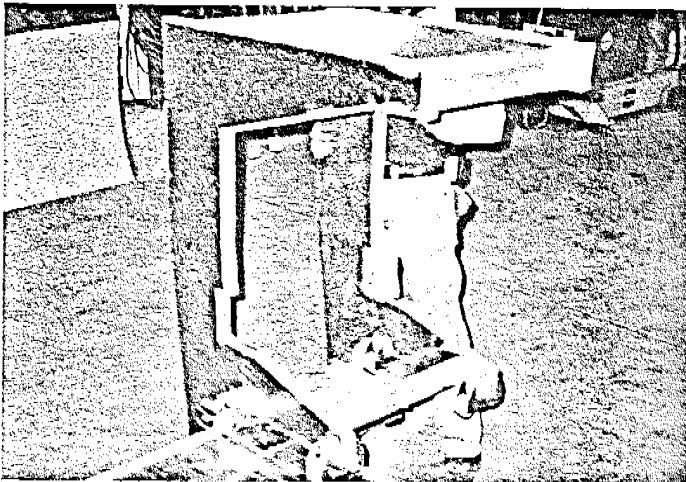

FIGURE 7
1. **ROLL DAVITS** onto primary deck. (See Figure 7).